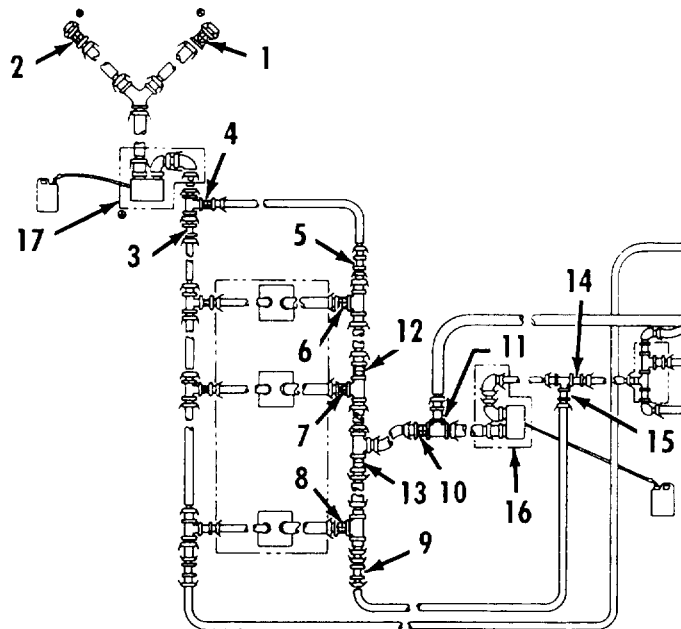

Figure 2-38. Refuel Mode - Fuel Tank Bypass.
- (8) Refuel Mode - Fuel Tank Bypass. Refer to figure 2-38.